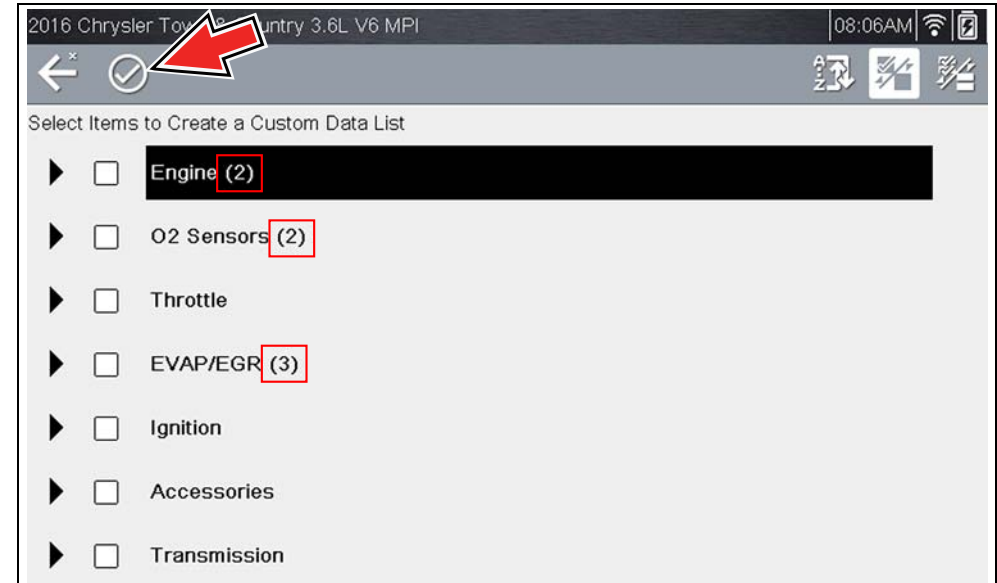

Figure 6-20
3. Once you have selected all the PIDs you need (*Figure 6-20*), to view the custom list, select the **Accept** icon (*Figure 6-20*).